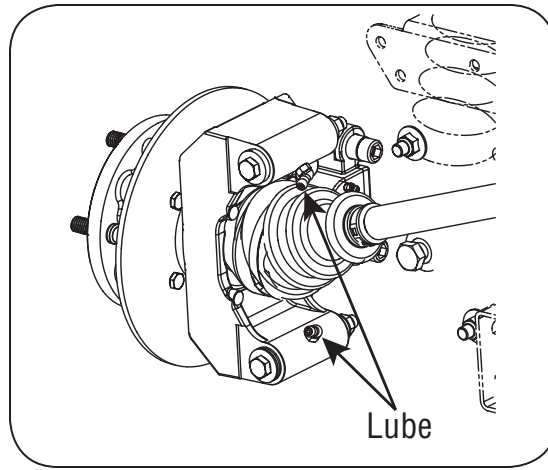

Figure 15
1. Lubricate two grease fittings on each axle with 2 or 3 shots of grease every 50 hours or after each use if consistently running unit in water deeper than axle. See Figure 15.